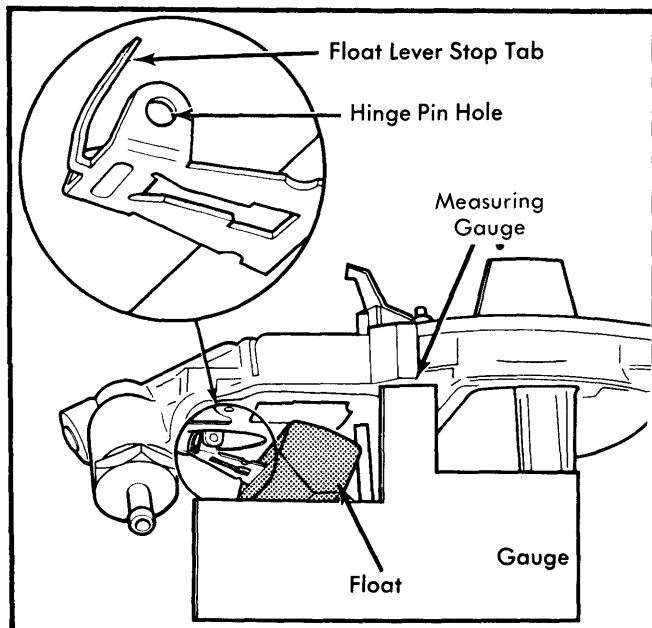

Fig. 3 Adjusting Float Drop
1) With upper body and gasket removed, hold upper body in upright position and allow float to hang. See Fig. 3.
2) Construct a gauge (as shown in Fig. 3.) to specified float drop setting. Using gauge, measure distance from cast surface of upper body to bottom of float.